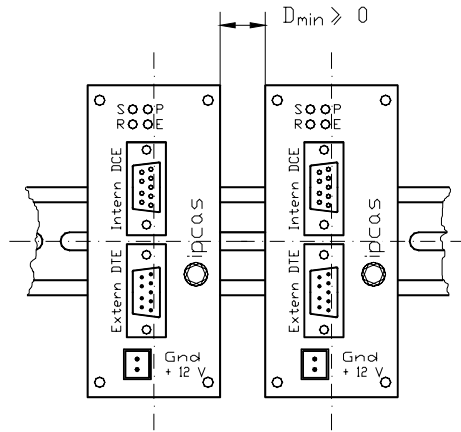

Fig. 2.4.1: Arrangement of TCT
The function of the Telecontrol Transformers is independent of their position. They can therefore be mounted in any desired position, fig. 2.4.1.
6. Push the circuit board back into the housing. Ensure that the correct mounting position is maintained (see figures 2.4.1 and 2.4.3). Then tighten the 4 screws on the front panel.